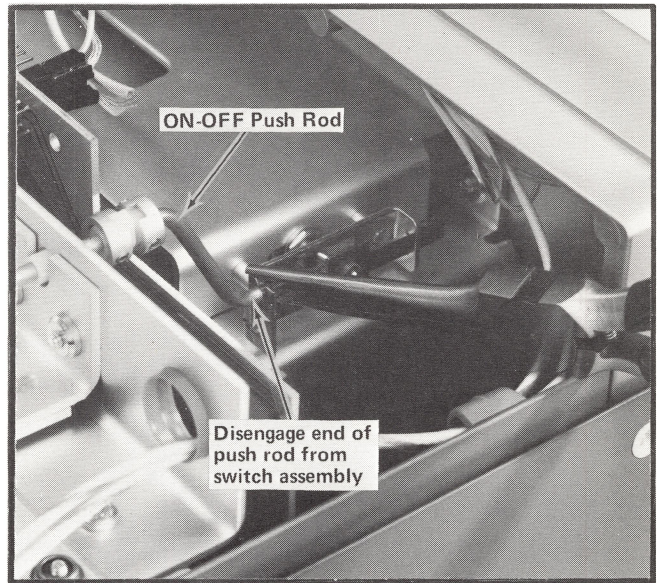

Fig. 4-1. Disconnecting ON-OFF push rod from switch assembly.
2. Disengage the ON-OFF switch push rod from the switch assembly as shown in Fig. 4-1.